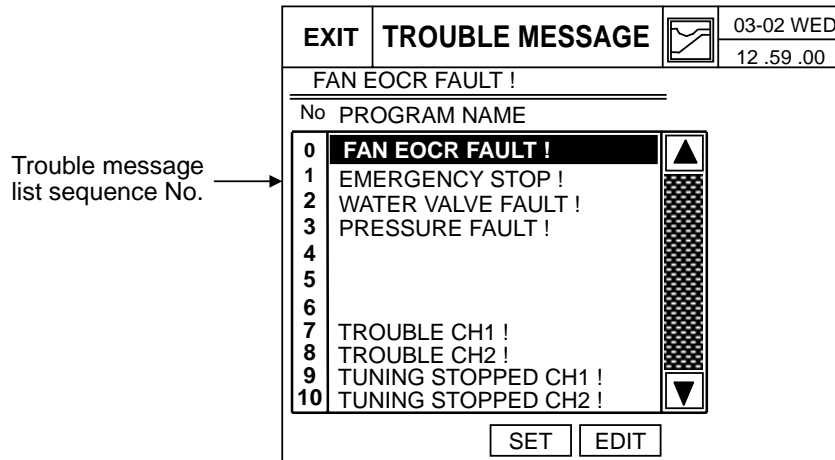

Fig. 3.18.3 Trouble Message List
(2) Message number set button
Input the number that is displayed in the trouble input message list. When you input the number displayed at the left side of the Figure 3.18.3, the message contents will be displayed at (2).
(3) Message selection button
When you press the button, the screen as shown in the Figure 3.18.3 will appear and you can allocate the message.